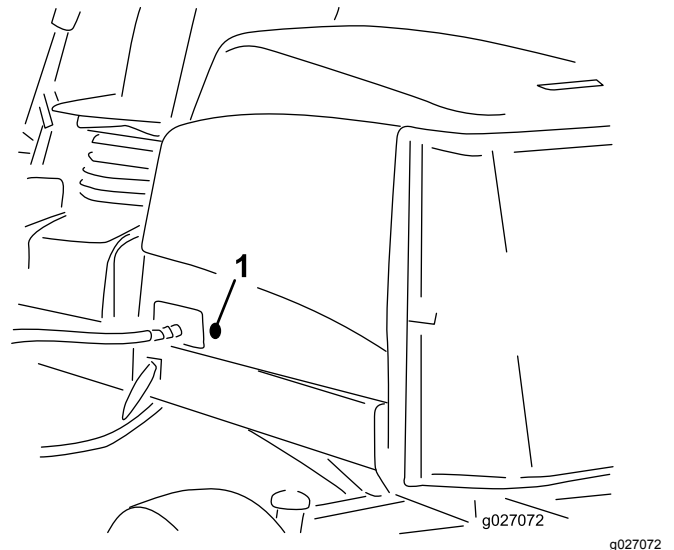

Figure 19
2. Remove the rubber grommet from the hole in the left side of the hood (Figure 19).